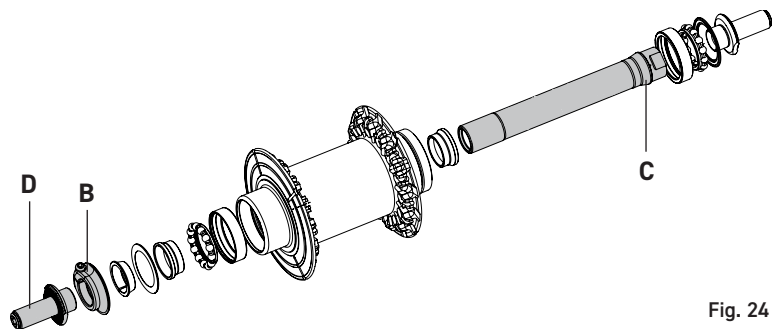

Fig. 24
- Block the axle with a 14 mm spanner placed in position C (Fig. 24) and on the left side where the hub adjustment ring nut B is (Fig. 24), remove the adapter D (Fig. 24) with a 19 mm spanner.
- Block the axle with a 14 mm spanner placed in position C (Fig. 24) and screw in the adapter D (Fig. 24) with a 19 mm spanner, tightening to a torque of 12 Nm.